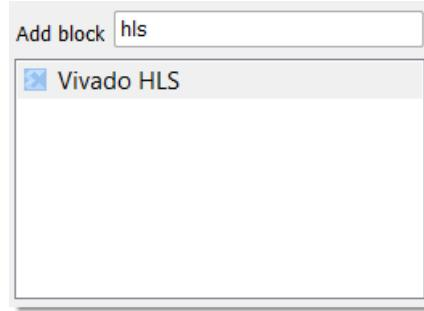

Figure 255 Selecting a Vivado HLS IP Block
- Type "hls" in the Add Block field (Figure 255).